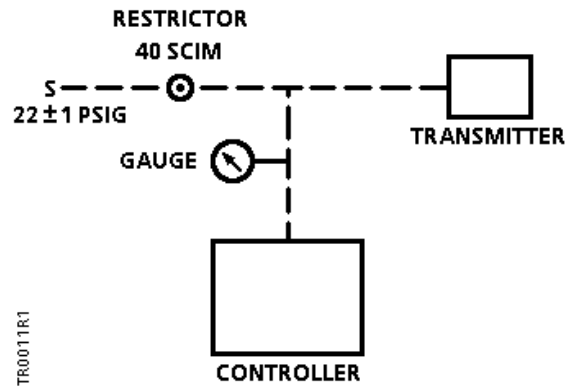

Figure 3. Typical Connections.
1. Use the 5/32-inch diameter tubing to connect the air line to the bottom port on the back of the wall plate. Note the position of the wall plate in *Figure 3*. Use the needle nose pliers to position the tube retainer which secures the connection.